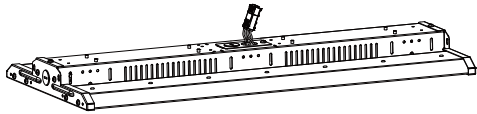
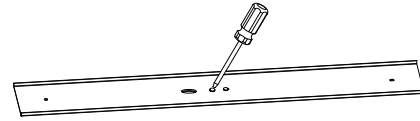

Figure19
Figure20
Step1. Knock off the knockout hole on the back of the fixture, take out the wires from the knockout hole (Figure 19), open the front cover of the fixture, and knock out the two knockout holes on the cover (Figure 20);